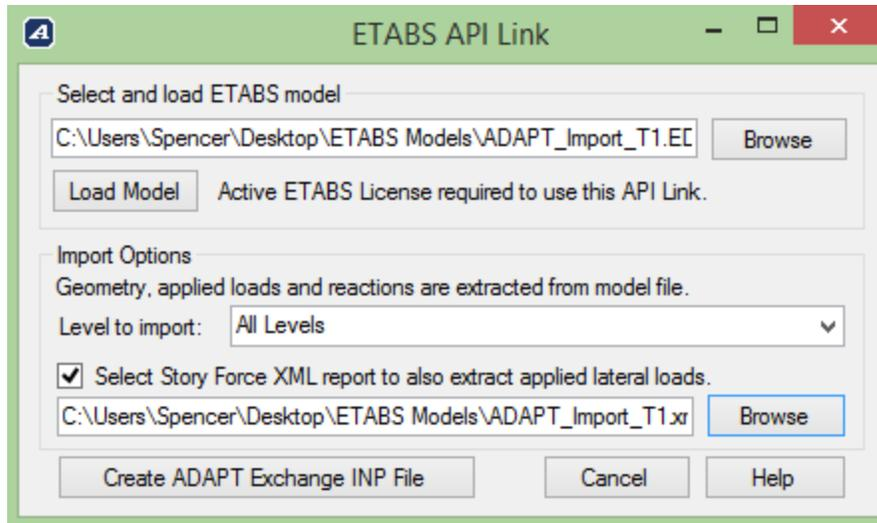

Figure 7 ETABS Link Export Options Dialogue
- In the *ETABS API Link* dialogue window, browse and select the *ETABS \*.EDB* file and select *Load Model*. See FIGURE 7. Select *Create ADAPT Exchange INP File*.
- After the model has loaded, in the same interface, select *All Levels* for the *Level to Import* and then select the option for selection of the *.XML* file. Browse and select the *ETABS \*.XML* file and select *Create ADAPT Exchange INP File*. See FIGURE 7.